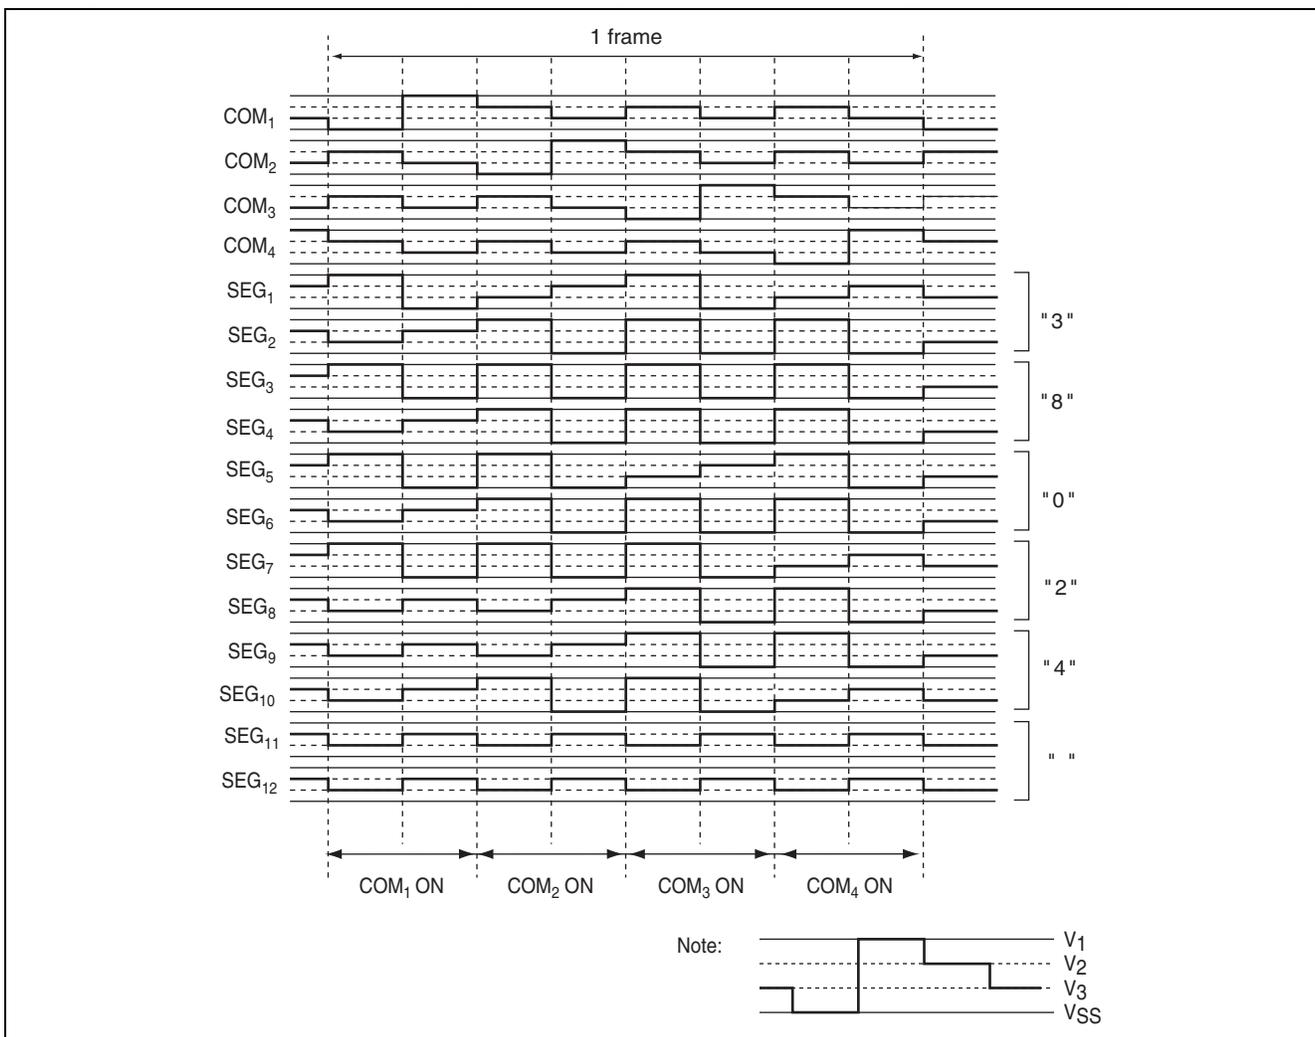

Figure 3.1 Waveforms of Segment Drive Signals
2. Figure 3.1 shows the waveforms of segment drive signals, which illustrate the operation of this sample task.